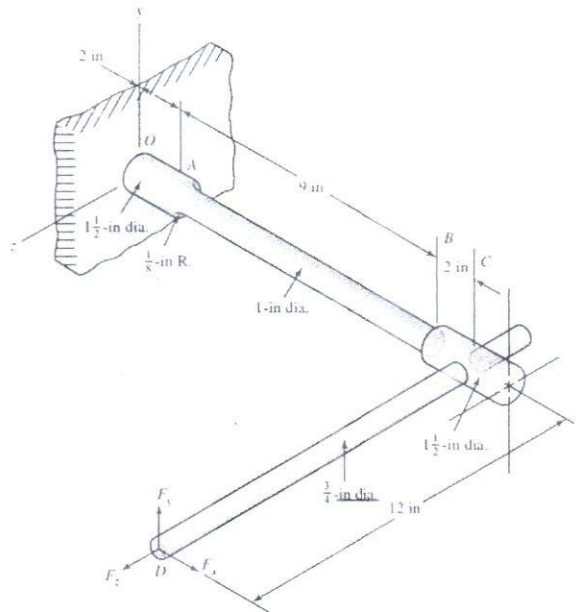

Figure 2
2. The cantilevered bar in the **Figure 2** is made from a brittle material and is statically loaded with $F_x=600$ lbf, $F_y=500$ lbf, and $F_z=-150$ lbf. Design the minimum factor of safety for yielding. Use both the maximum-shear-stress theory and the distortion-energy theory, and compare the results. The material is 1018 CD steel. (25)